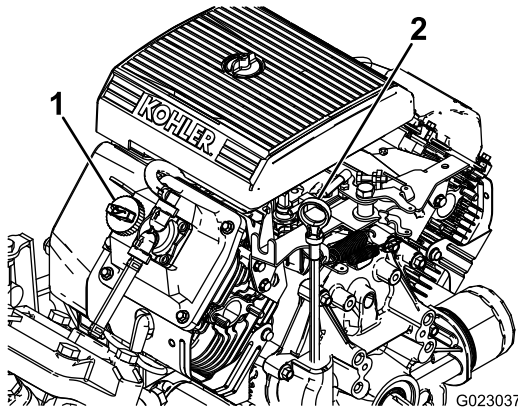

Figure 11
2. Remove the dipstick and wipe it with a clean rag (Figure 11).
4. If the oil level is low, remove the filler cap from the valve cover (Figure 11) and pour oil into the opening until the oil level is up to the Full mark on the dipstick; refer to Servicing the Engine Oil (page 38) for the proper oil type and viscosity. Add the oil slowly and check the level often during this process. Do not overfill.